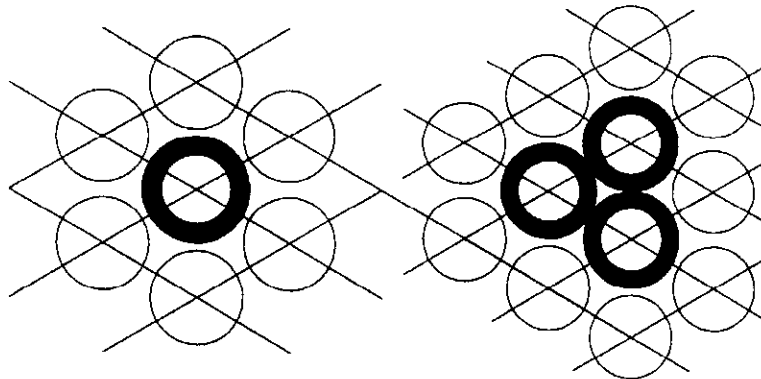

Figure 3
8.4.11 WELD plug to tube sheet in accordance with site welding procedures and work order instructions. REFER to Figure 3.